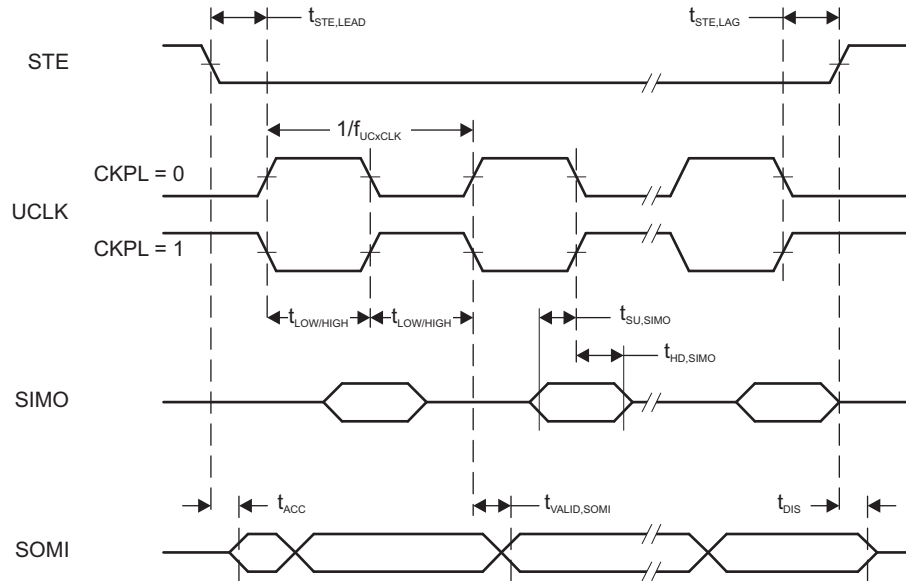

Figure 5-11. SPI Slave Mode, CKPH = 0
(1)  $f_{UCxCLK} = 1/2t_{LO/HI}$  with  $t_{LO/HI} \geq \max(t_{VALID,MO(Master)} + t_{SU,SI(eUSCI)}, t_{SU,MI(Master)} + t_{VALID,SO(eUSCI)})$ For the master parameters  $t_{SU,MI(Master)}$  and  $t_{VALID,MO(Master)}$ , see the SPI parameters of the attached master.(2) Specifies the time to drive the next valid data to the SOMI output after the output changing UCLK clock edge. See the timing diagrams in Figure 5-11 and Figure 5-12.(3) Specifies how long data on the SOMI output is valid after the output changing UCLK clock edge. See the timing diagrams in Figure 5-11 and Figure 5-12.